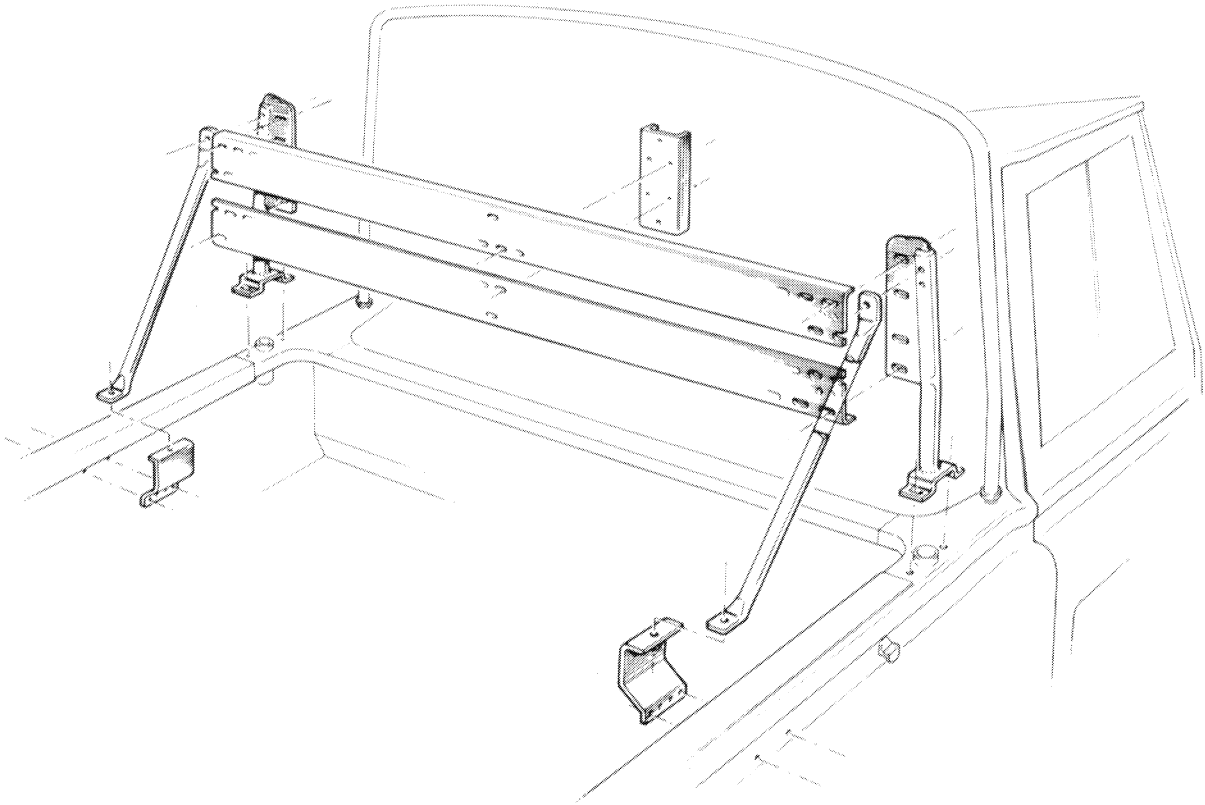

Fig. 9 Equipment rack: exploded view
5. Bolt the stays, equipment rack (5975-99-637-0813) to the brackets, stay equipment rack using 2 off M8 x 20 bolts and washers and to the upper of the holes in the tubes of the supports, equipment rack using 2 off M8 x 45 bolts, nuts and washers as in fig. 9.
6. Using 8 off M8 x 20 bolts, nuts and washers secure the angles, perforated, equipment rack (5975-99-637-0808) between the supports, equipment rack as in fig. 9. The holes in the upper angle must be directly above the corresponding holes in the lower angle.
7. Using 6 off M8 x 20 bolts, nuts and washers secure the channel (5975-99-637-0809) to the angles, perforated, equipment rack, midway between the supports, equipment rack, as in fig. 9.